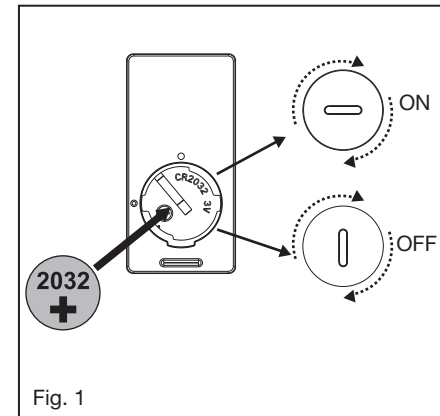

Fig. 1
- 1 Remove ball from downrod by loosening set screw in the side of the ball. Slide ball down and remove ball pin; remove ball. (Fig. 1)
- 1 Select a desired location. Use the wall plate to mark the location of the mounting holes. Plastic wall anchors or mounting screws are needed for this application. (Fig. 1)
Remove the panel from the transmitter and then install one 2032 battery (included). You need to use a coin to open or close the battery cover. To prevent damage to transmitter, remove the battery if not use for long periods of time (Fig. 1)